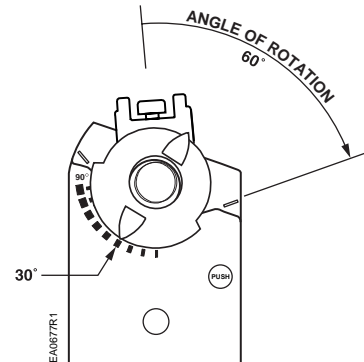

Figure 13.
5. Remove the shaft adapter and insert it with the position indicator pointing to mark on the scale calculated in the previous step. Figure 13.